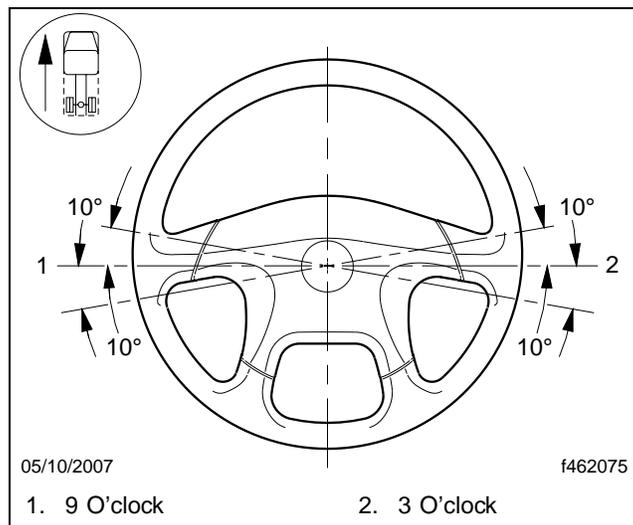

Fig. 11, Steering Wheel Centered
39. Make sure that the steering wheel is within 10 degrees of center as shown in **Fig. 11**. If it is not, remove and center the steering wheel.